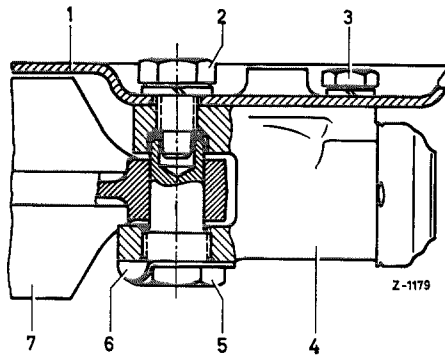

Fig. 42-5/1
3. Unscrew the three hexagon screws (3) and remove the wheel brake cylinder (4) (Fig. 42-5/1).